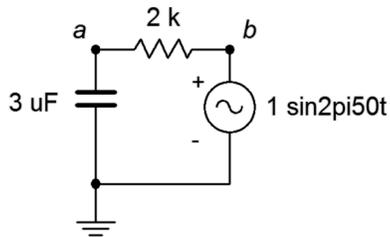

Figure 2.13
- 24. For the circuit of Figure 2.13, determine the circulating current.
- 25. Determine the impedance of the circuit of Figure 2.13 using a frequency of 1.5 kHz.
- 26. For the circuit of Figure 2.13, determine the circulating current and the voltages across each component. Also find the time delay between the voltages of the components.
- 27. For the circuit of Figure 2.13 with a frequency of 1.5 kHz, determine the circulating current and the voltages across each component. Also find the time delay between the voltages of the components.